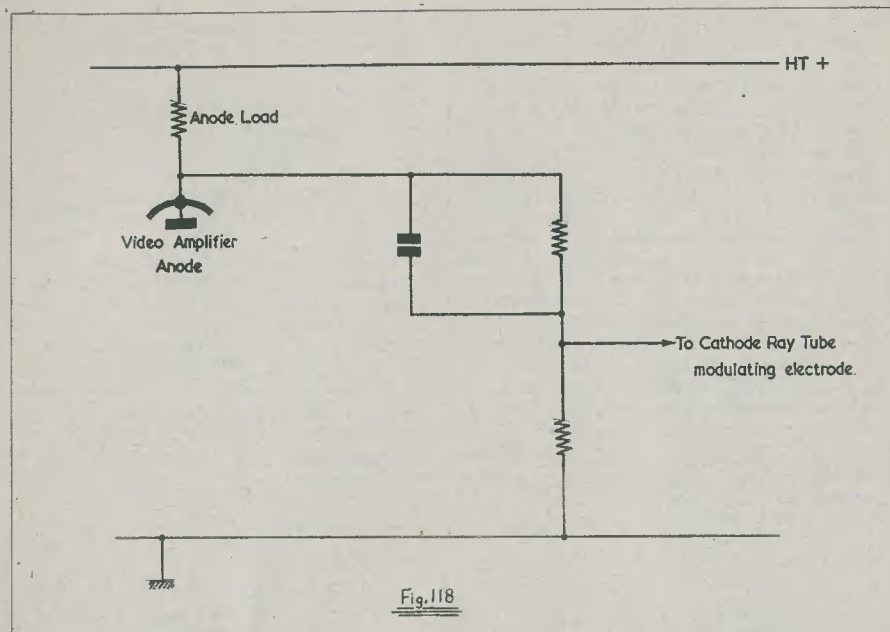
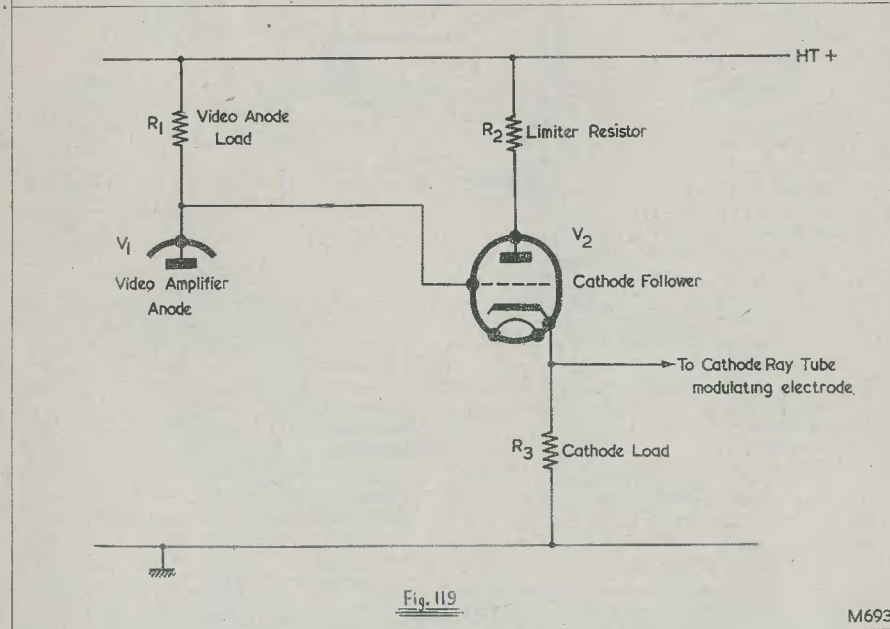

Fig. 118
Fig. 119
A compromise between a.c. and d.c. coupling circuits which is occasionally employed is illustrated in Fig. 118. This diagram depicts what is referred to as *partial*
Fig. 118. A partial d.c. coupling between the video amplifier anode and the cathode ray tube. Fig. 119. Another method of coupling the video amplifier to the cathode ray tube. In this instance a cathode follower is employed
d.c. coupling. In Fig. 118 the anode of the video amplifier connects to two resistors in series, the cathode ray tube modulating electrode being fed from their junction. A condenser across the top resistor allows the passage of the higher video frequencies. With this arrangement it is possible to reduce the voltage applied to the modulating electrode whilst still retaining, partially, the effect of a direct coupling.
An elegant method of coupling the video output anode to the cathode ray tube consists of inserting a cathode follower stage between the two, as in Fig. 119. In this diagram  $V_1$  is the video amplifier and  $V_2$  is the cathode follower. The anode voltage of the cathode follower is fixed (the value of  $R_2$  being of the order of 100 to 200 $\Omega$  only) and the input grid voltage is obtained by direct connection to the video amplifier anode. The output of the cathode follower then appears across its cathode load. Whilst the cathode follower can only give a stage gain which is slightly less than unity, it has the considerable advantage of offering an extremely high input impedance, and of providing an output which may feed into low impedance circuits. At video frequencies the high impedance of  $V_2$  shows itself mainly as a very low input capacity, a typical practical example being of the order of 1pF only. This capacity is much lower than that given when the video amplifier anode couples immediately to the cathode ray tube, with the result that the high frequency compensating components needed with the latter type of coupling circuit are not normally required. Thus, the video amplifier anode load may consist of a single, relatively high-value, resistor on its own. Assuming a maximum video frequency of 3Mc/s, a typical value for  $R_1$  in Fig. 119 would be of the order of 15k $\Omega$ .
Under normal conditions the cathode of a cathode follower is always slightly positive of its grid. Thus, the cathode of  $V_2$  in Fig. 119 will be slightly positive of the signal potential on the anode of  $V_1$ . The resultant effect will be that the coupling provided by the valve will be almost identical to that given by a direct connection. The cathode follower also provides a means whereby the heater-cathode potential difference in the cathode ray tube may be kept within safe limits. We have previously seen3 that it is possible, immediately after switching on the receiver, for the anode to attain full h.t. potential if this becomes available before the video amplifier has warmed up. With the arrangement of Fig. 119, the voltage applied to the
cathode ray tube remains at chassis potential until the cathode follower warms up. Also, whilst under normal working conditions without the cathode follower circuit it is possible for the video amplifier anode to approach full h.t. potential during cut-off periods (caused by such things as an excessive input signal), the cathode follower circuit reduces this tendency and also reduces the voltage passed on to the cathode ray tube. This is due to the fact that the d.c. anode resistance of the cathode follower increases when the potential between its anode and cathode is reduced to a low value. In the instance illustrated in Fig. 119, cut-off in  $V_1$  will cause its anode to rise to a potential which will be limited by the flow of grid current in  $R_1$ ,  $V_2$  and  $R_3$ . The cathode of  $V_2$  will then have a potential slightly lower than that on its grid, this being significantly lower than the full h.t. potential. Thus, even under conditions of cut-off in the video amplifier, the cathode follower prevents full h.t. potential being applied to the modulating electrode of the cathode ray tube.